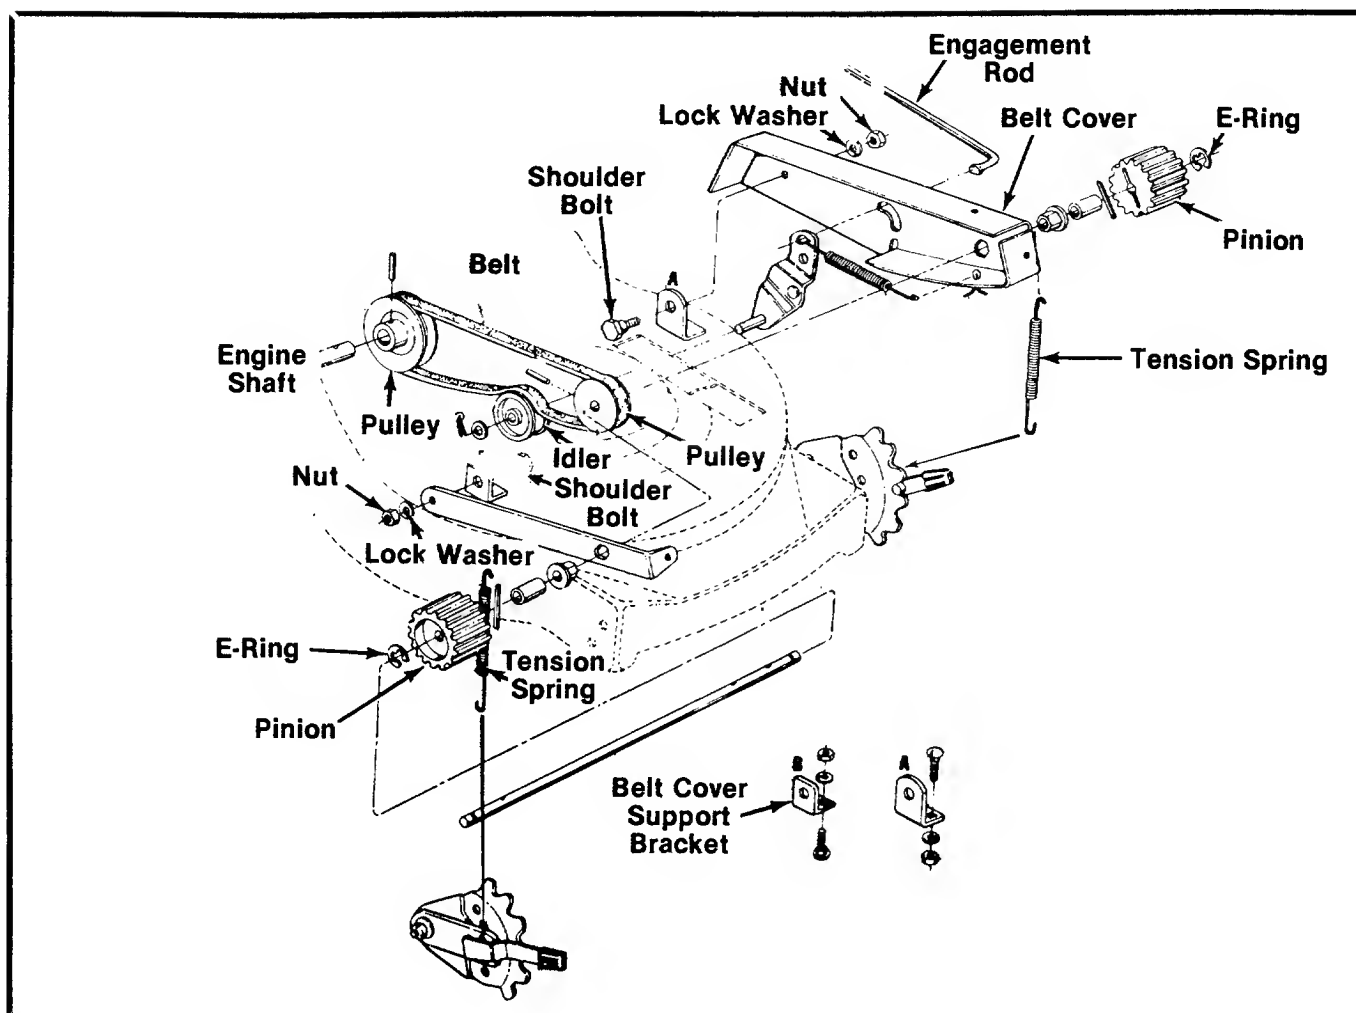

FIGURE 17.
### **BELT REPLACEMENT (See Figure 17)**
2. Remove both tension springs. See figure 17.